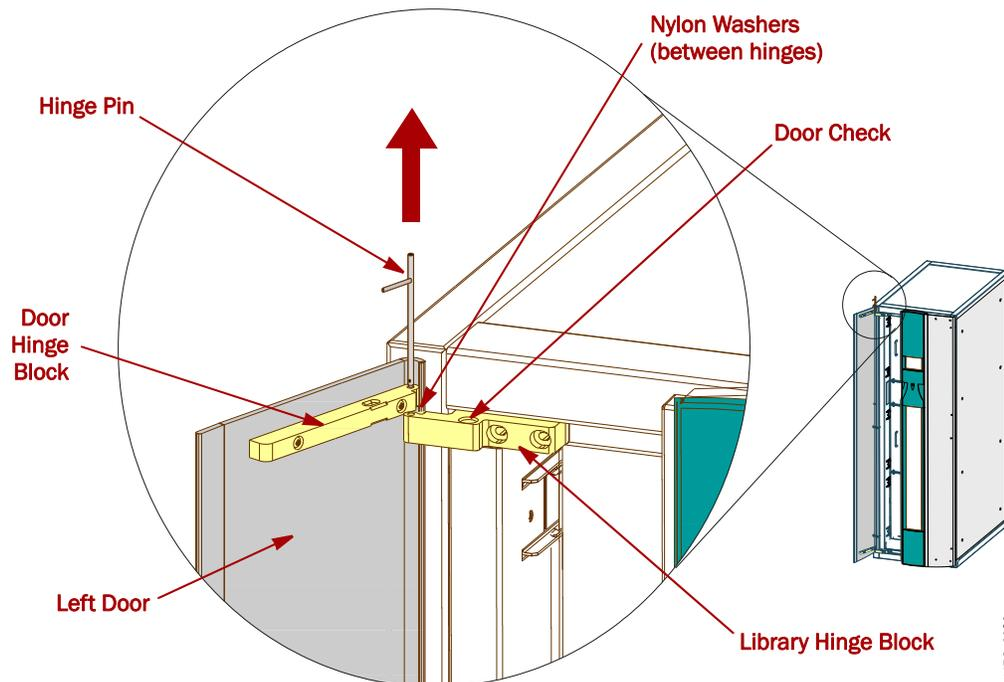

Figure 2-7: Attaching the Doors
3. Attach the **left door** and adjust it for alignment and operation (Figure 2-7).